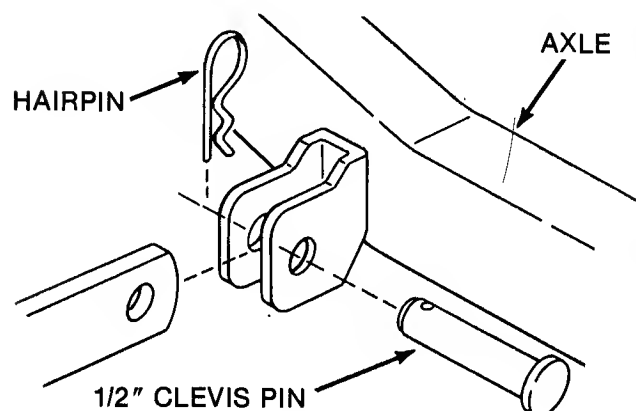

FIGURE 22 - FRONT LIFT ARM
4. Pull front lift arms up into position between the implement attaching brackets on back of front axle and secure at each side with a large clevis pin and large hairpin. (Fig. 22)